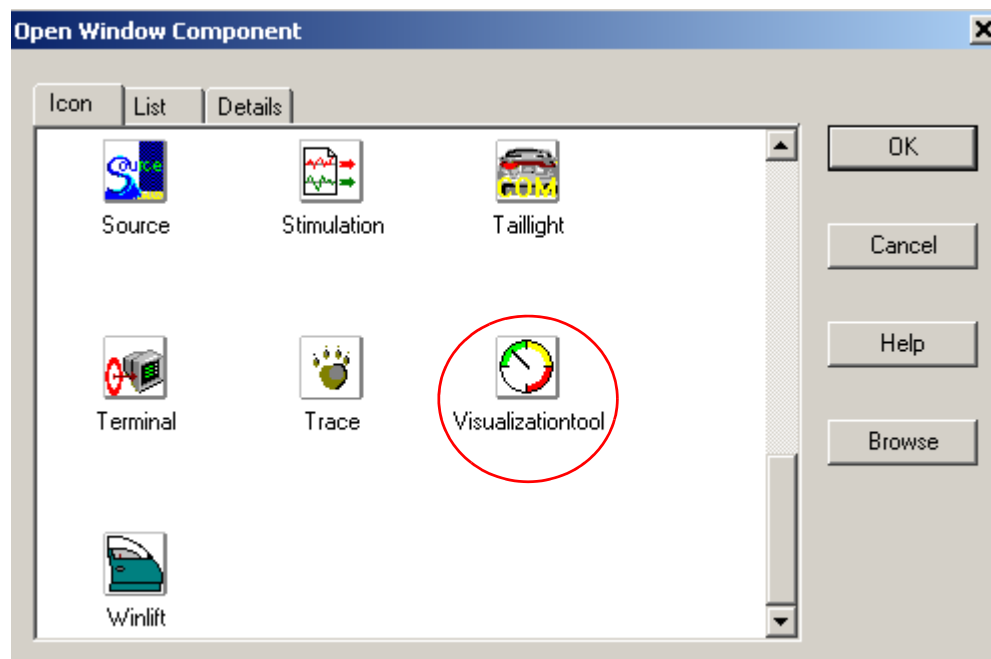

Figure 34. Open Window Component—Visualizationtool
2. The following window appears (Figure 34). Scroll down until you see the **VisualizatoinTool** icon. Highlight it and click the **OK** button.